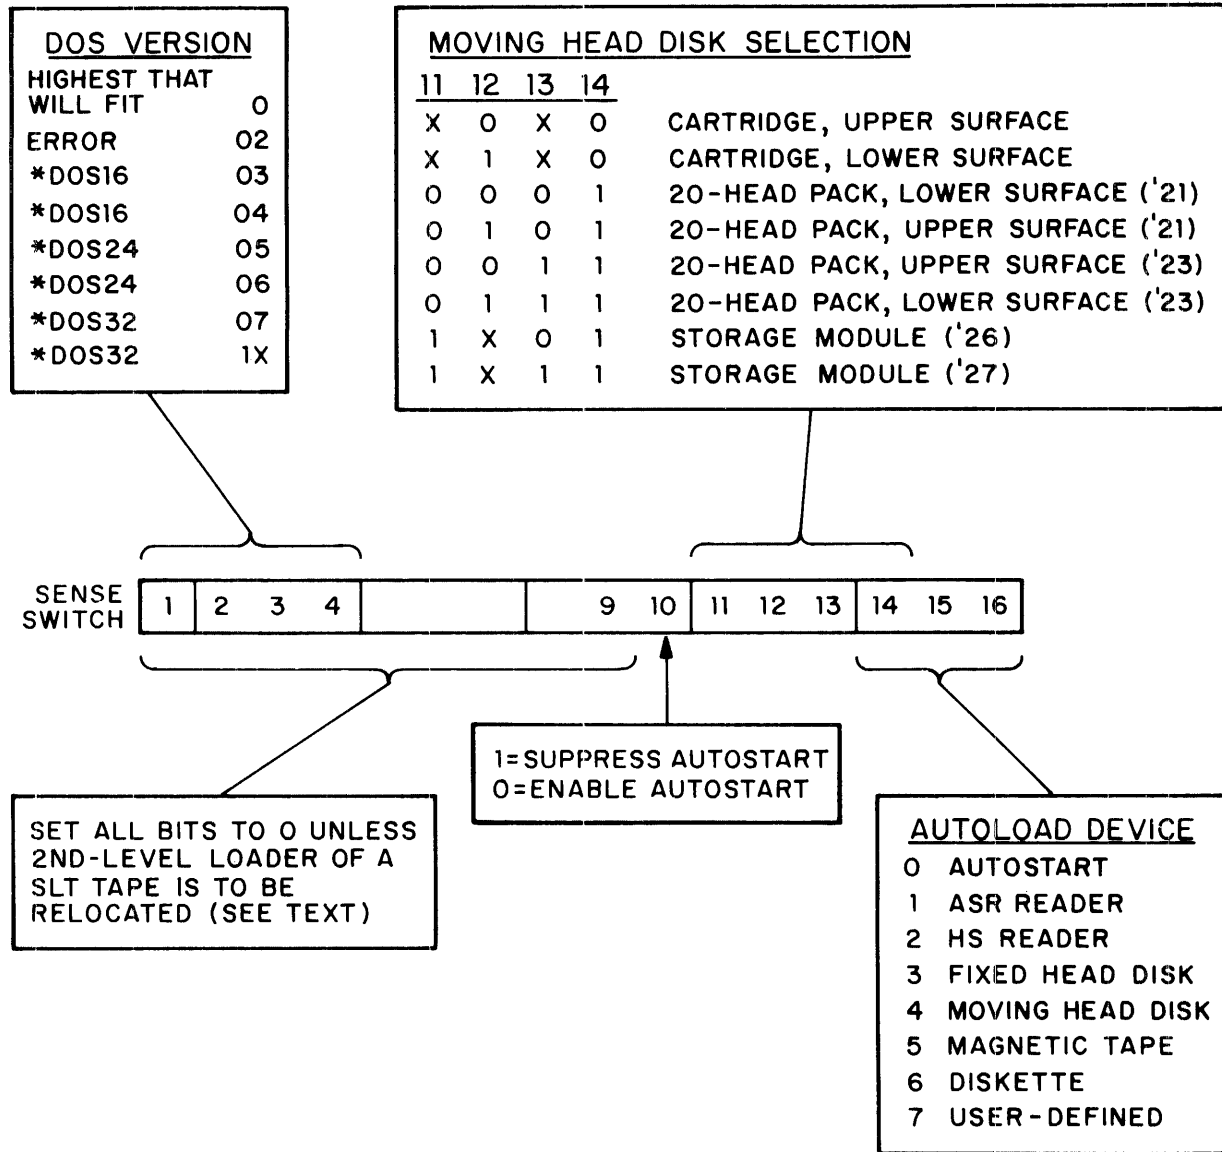

Figure F-2. APL Sense Switch Settings.
2. Select the autoload device (and disk surface, if applicable) in SS11-16 as shown in Figure F-2.